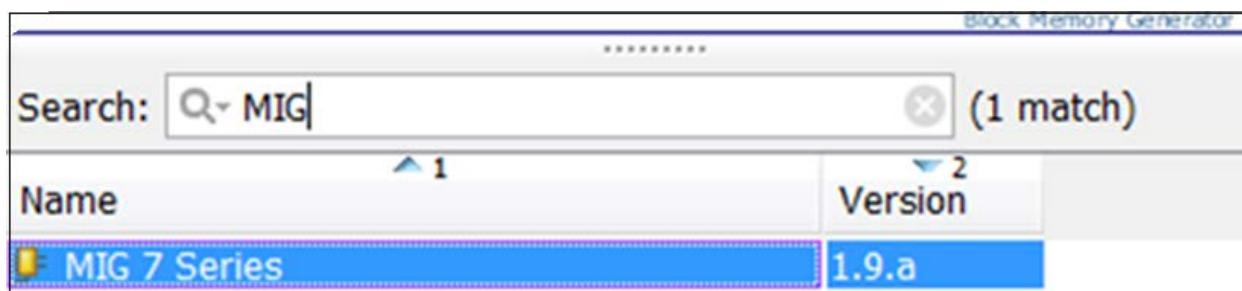

Figure 89: MIG Selection
11. On the canvas, right-click and select **Add IP** to instantiate the MIG IP (DDR3 Interface Controller) (Figure 89).